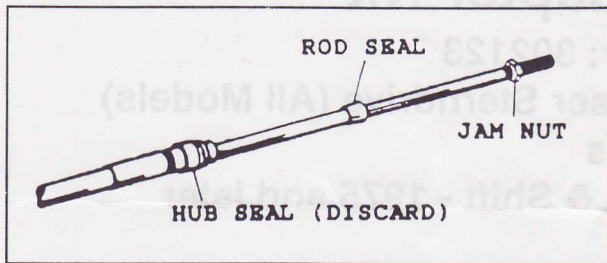

FIGURE 1
1. Remove the jam nut and both seals from the engine end of the cable (see Figure 1). Discard the hub seal only.